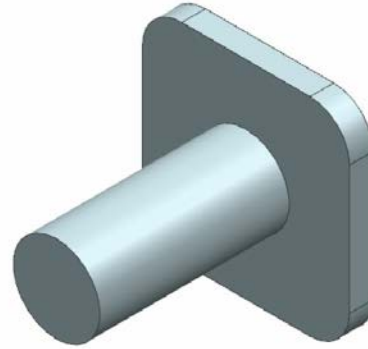

Figure 6-98 Model after creating the second feature
6. Choose the **OK** button from the dialog box; the cylindrical extrude feature is created. The model after creating the second feature is shown in Figure 6-98.